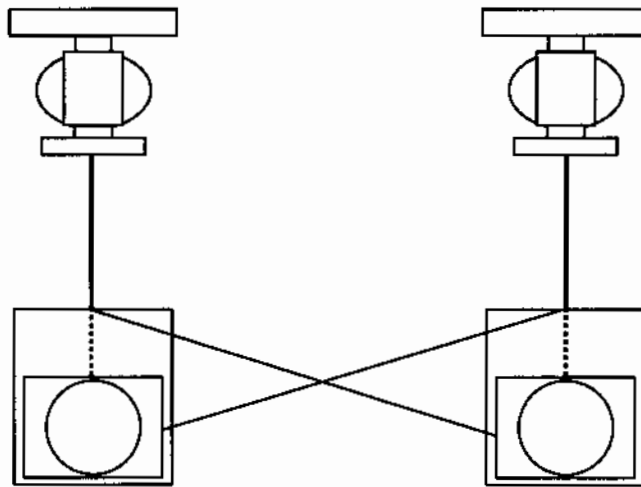

Figure 4.5 Crossover connection
4.7.1 Crossover connection (Please refer to Figure 4.5)